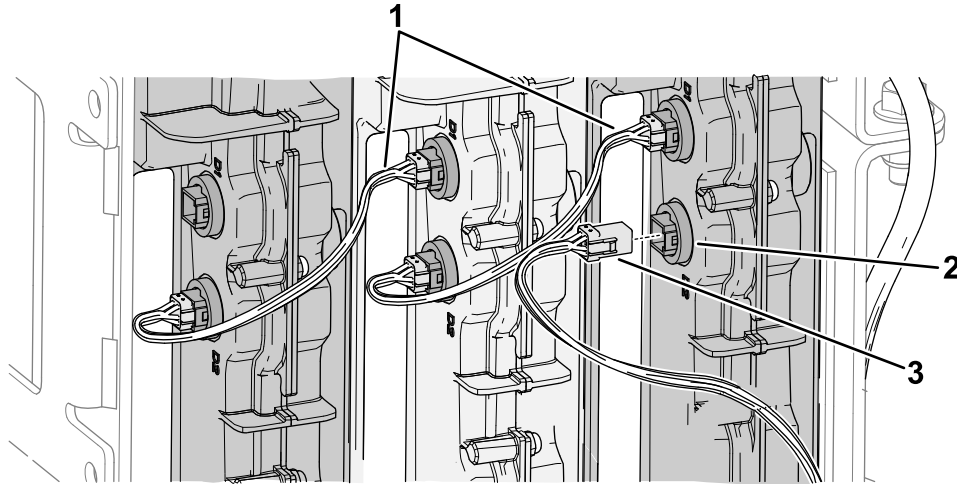

Figure 15
1. Install 2 data-interface wire harnesses (19 cm or 7-1/2 inches) into the battery ports shown in Figure 15.
2. Install an end of the data-interface wire harness (63.5 cm or 25 inches) into the battery port labeled D2 as shown in Figure 15.